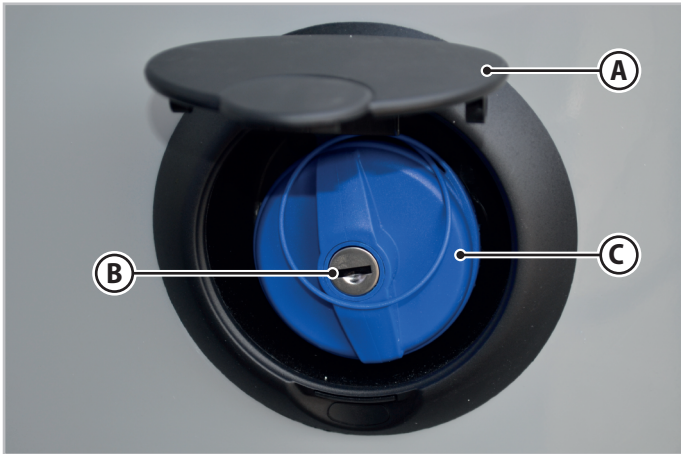

Fig.6.31 - Refilling the white water tank
1. Lift the flap (**A** - Fig.6.31) to access the water filler cap on the side of the vehicle.
2. Insert the key into the lock (**B** - Fig.6.31).
4. Turn the cap (**C** - Fig.6.31) anticlockwise and remove it.